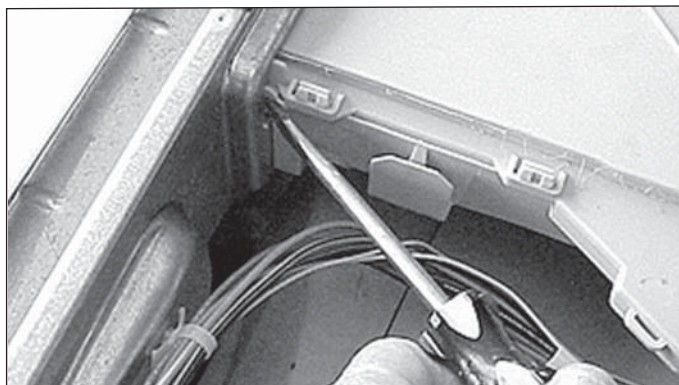

Figure 4-66.
7. Release the (2) tabs, one on each side, locking the housing to the console mounting panel. (See Figure 4-66)